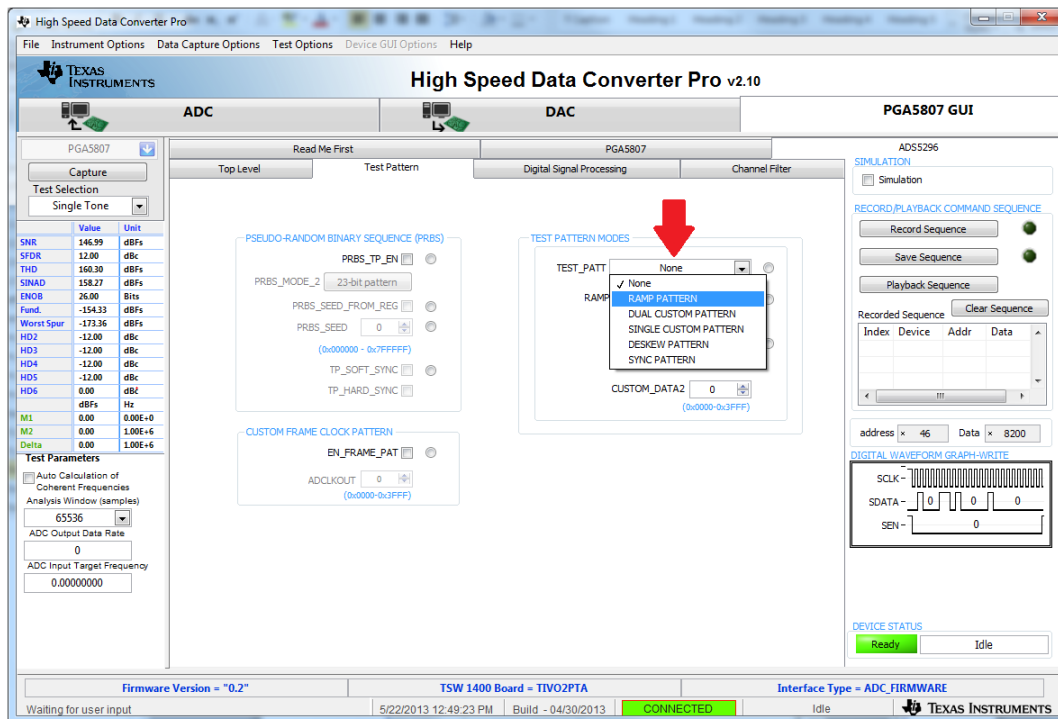

Figure 32. ADS5296A Setup for RAMP Test
1. Within the ADS5296 tab, press on the sub-tab labeled *Test Pattern* and select **RAMP PATTERN** within the **TEST_PATT** menu as shown in Figure 32.